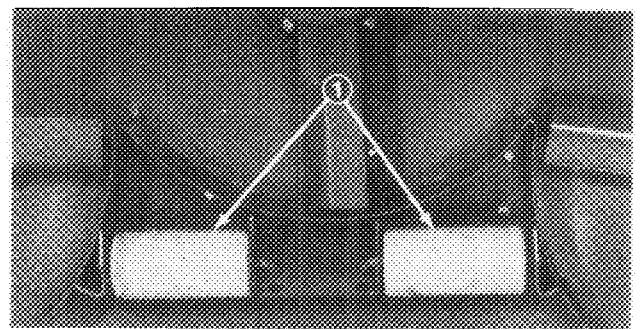

Figure 16
3. Remove cotter pins securing roller shafts to underside of deck (Fig. 16).